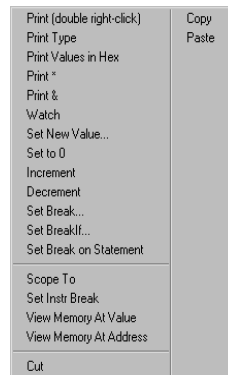

Figure 4-1 Source Variable Name menu
6. Right-click to display the **Source Variable Name** menu, shown in Figure 4-1 on page 4-20.